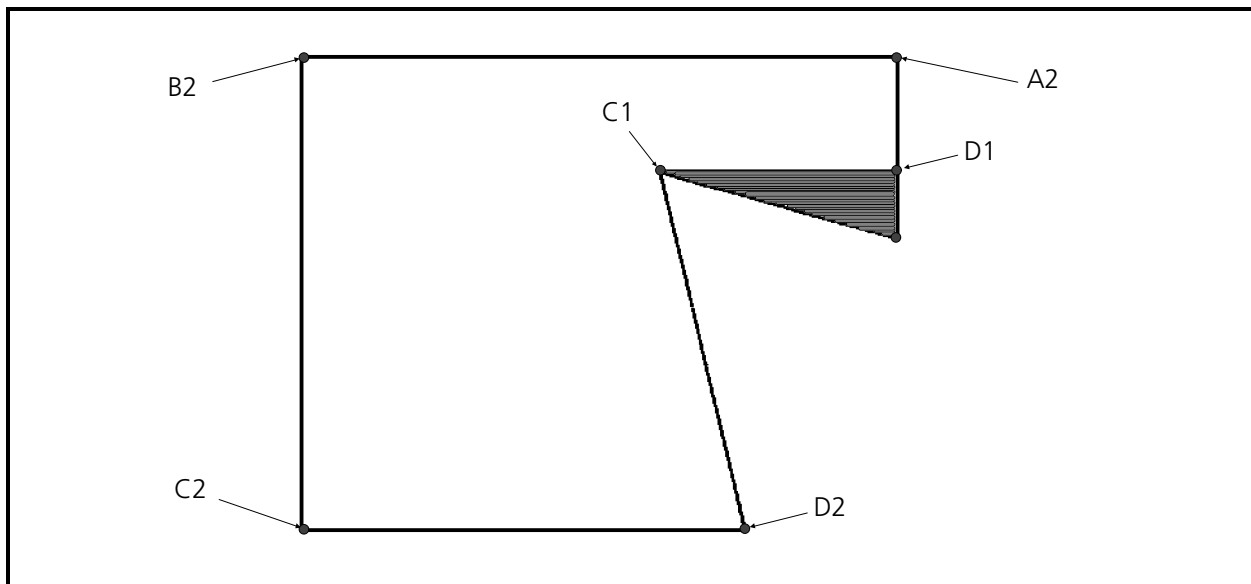

Figure 6-71
Now, as shown in Figure 6-71, the monitor will display the triangular section you just digitized in a fill pattern that enters at point A1 and exits at point D1. If you want the fill stitching to exit at the left of the triangle, you may interchange points C1 and D1 when you digitize.
3. Enter a Mk1 at A2 in the illustration in Figure 6-71 and another Mk1 at B2 to define the first line of the fill.
6. Now enter a Mk2 at point B2 in the illustration in Figure 6-71 to identify the start of the first side of the second fill.